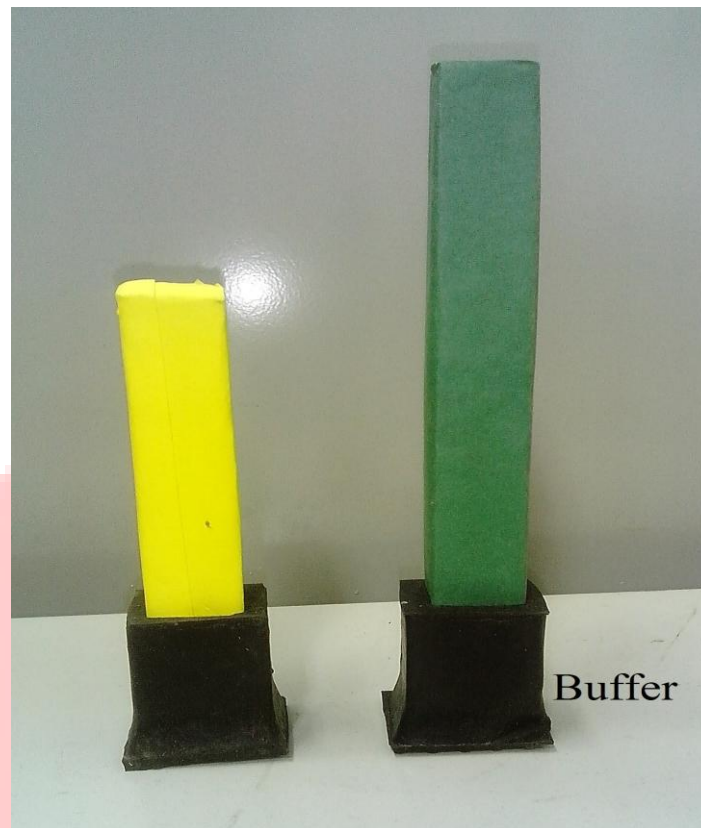

Figure 8: Inserting buffer into Weeds and Plants
5. Insert each weed and plant into buffers provided with the kit for support (Refer to Figure 8).